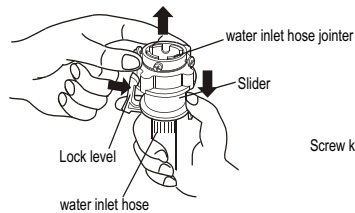
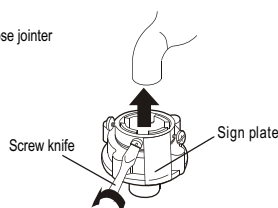
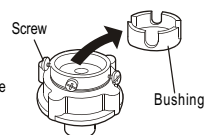

Figure 1
Figure 2
Figure 3
Clean the detergent box and set it on the control panel seat. 1.The method of dismantle: Push it up aslant and gently. 2.The method of install : install it upwards and aslant and push it in .  Dismantle Install	- The lint filter must be used during washing. - It must be cleaned in time after each using. Lint filter: - Push down the spring piece of the top lint filter to make the claws out of the filter cover, and then pull out the lint filter to get it down. (figure1) - Pull the back of the lint filter, and then you can get down it off the front cover of the lint filter. (figure2) - Sweep the rubbish in the lint filter. - Put the back of the lint filter into the front cover . - Put the lint filter into filter cover, and make it tight . - Make sure the lint filter well installed, or it can influence your use.  Figure 1
2. Put down the drain hose. Take off the drain hose frame as indicated in Figure 1. Take the drain hose into the cabinet, then nip the drain fixing clamp to make it deviated from the clip, the other hand is used to put down the drain bushing, as indicated in Figure 2, 3.
1. Press the lower end of the lock lever and push down the slider. Take off the water inlet hose jointer from the water inlet hose component. See to Figure 1.
2. Loosen the screw till the water faucet can be accessed. Put the jointer of the water inlet hose on the faucet. See to Figure 2. (If the faucet is too large and the jointer can not be set on the water faucet, please loosen the four screws and take out the bushing in the jointer. The front end of the faucet must be smooth, otherwise it may leak water. See to Figure 3.)